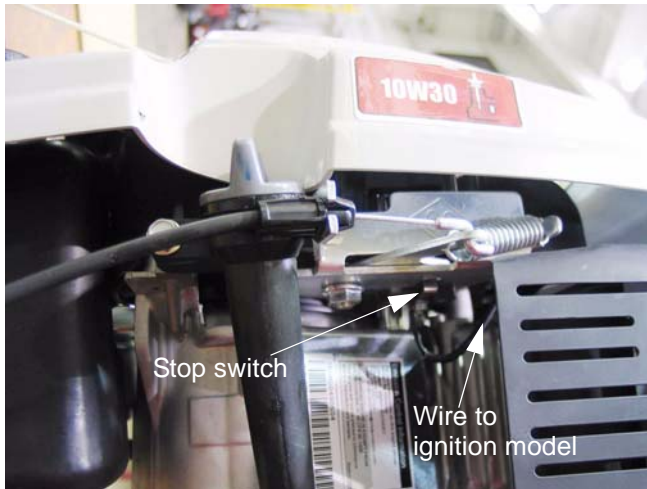

Figure 5.53
5.53. To **test the stop switch**: locate the terminal that connects the stop switch wire to the primary windings of the ignition module. See Figure 5.53.